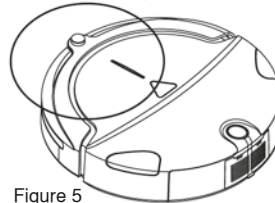

Figure 5
6. After the battery's power used up, the indicator will flash gradually; When the indicator becomes normally on, it means the battery is charged fully. (See Figure 5)